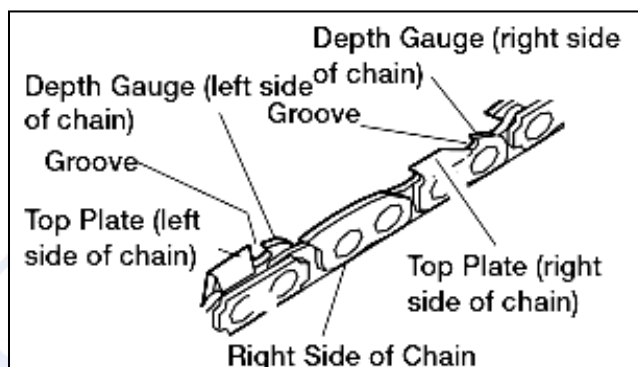

Figure 12
4. Hold file guide level. Make sure 30° mark on file guide is parallel to center of guide bar (see Figure 12). This will insure that you file cutters at 30° angle.
5. File from inside towards outside of cutter until sharp. Only file in this one direction (see Figure 12). (Note: Two or three strokes with file should sharpen cutter.)